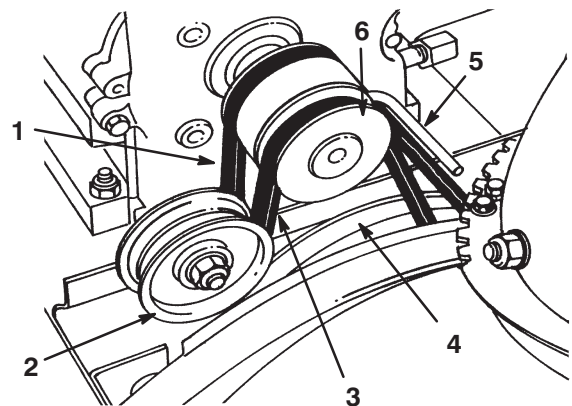

Figure 24
1. Flange-head bolt (2)
5. Loosen the belt guide (Fig. 24).
6. Remove the auger/impeller drive belt from the engine pulley and the large auger/impeller pulley (Fig. 24).
11. Remove the traction drive belt from the engine pulley and the large traction pulley (Fig. 24).
13. Loop the belt over the engine pulley, ensuring that the belt is on the inside of the belt guide (Fig. 24).
18. Install the auger/impeller drive belt around the large auger/impeller pulley and engine pulley, ensuring that the belt is on the inside of the idler pulley and the belt guide (Fig. 24).
4. Loosen the belt guide (Fig. 24).
5. Remove the auger/impeller drive belt from the engine pulley and the large auger/impeller pulley (Fig. 24).
6. Install a new belt around the large auger/impeller pulley (Fig. 24).
7. Loop the belt over the engine pulley, ensuring that the belt is on the inside of the idler pulley and the belt guide (Fig. 24).